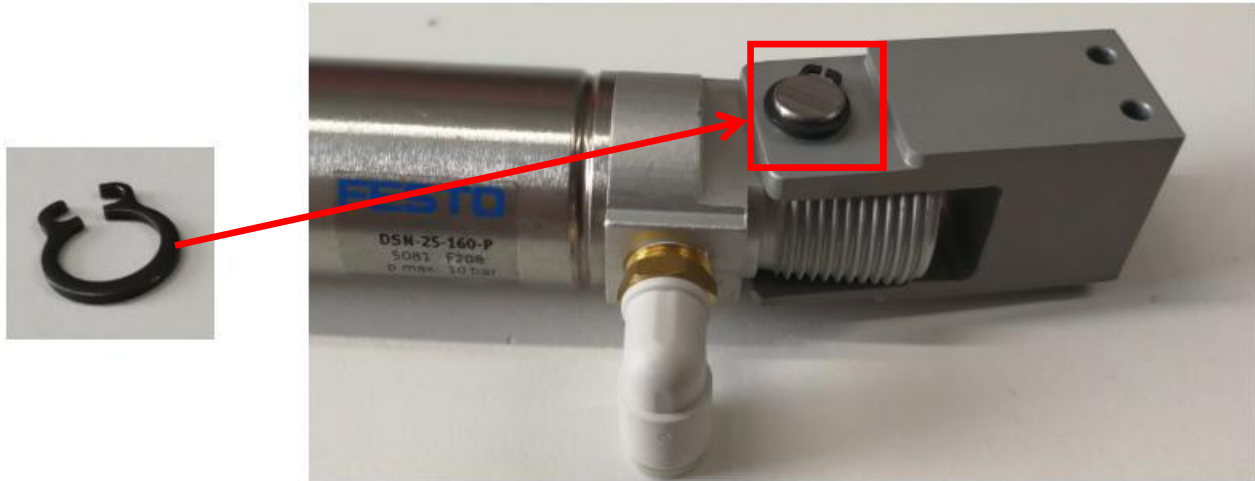

Figure 15
19. Twist the Rear Cylinder Holder & assemble C-Clip at other side of Dowel Pin as Figure 15.